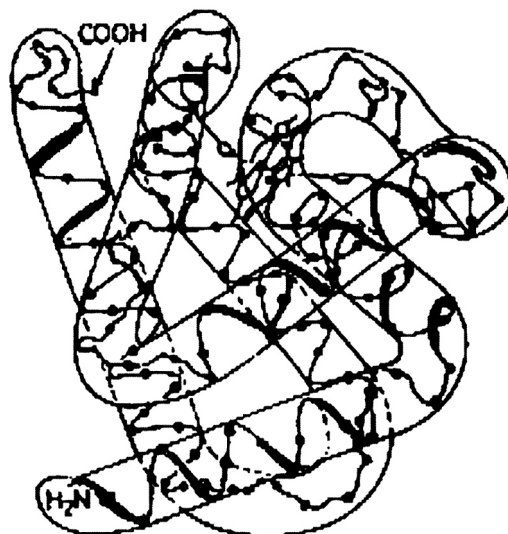

Fig. 31.3 : Structure of myoglobin
- (iii) **Tertiary structure:** It is the three-dimensional structure of proteins. It arises due to folding and superimposition of various α -helical chains or β -plated sheets. For example Fig. 31.3 represents the tertiary structure for the protein myoglobin.